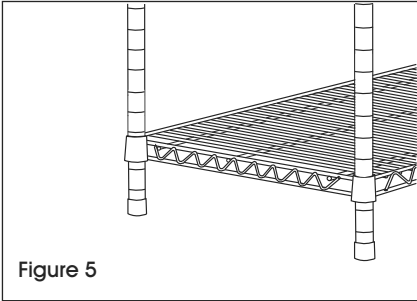

Figure 5
3. Stand unit upright. Gently tap shelf down to secure. (See Figure 5)